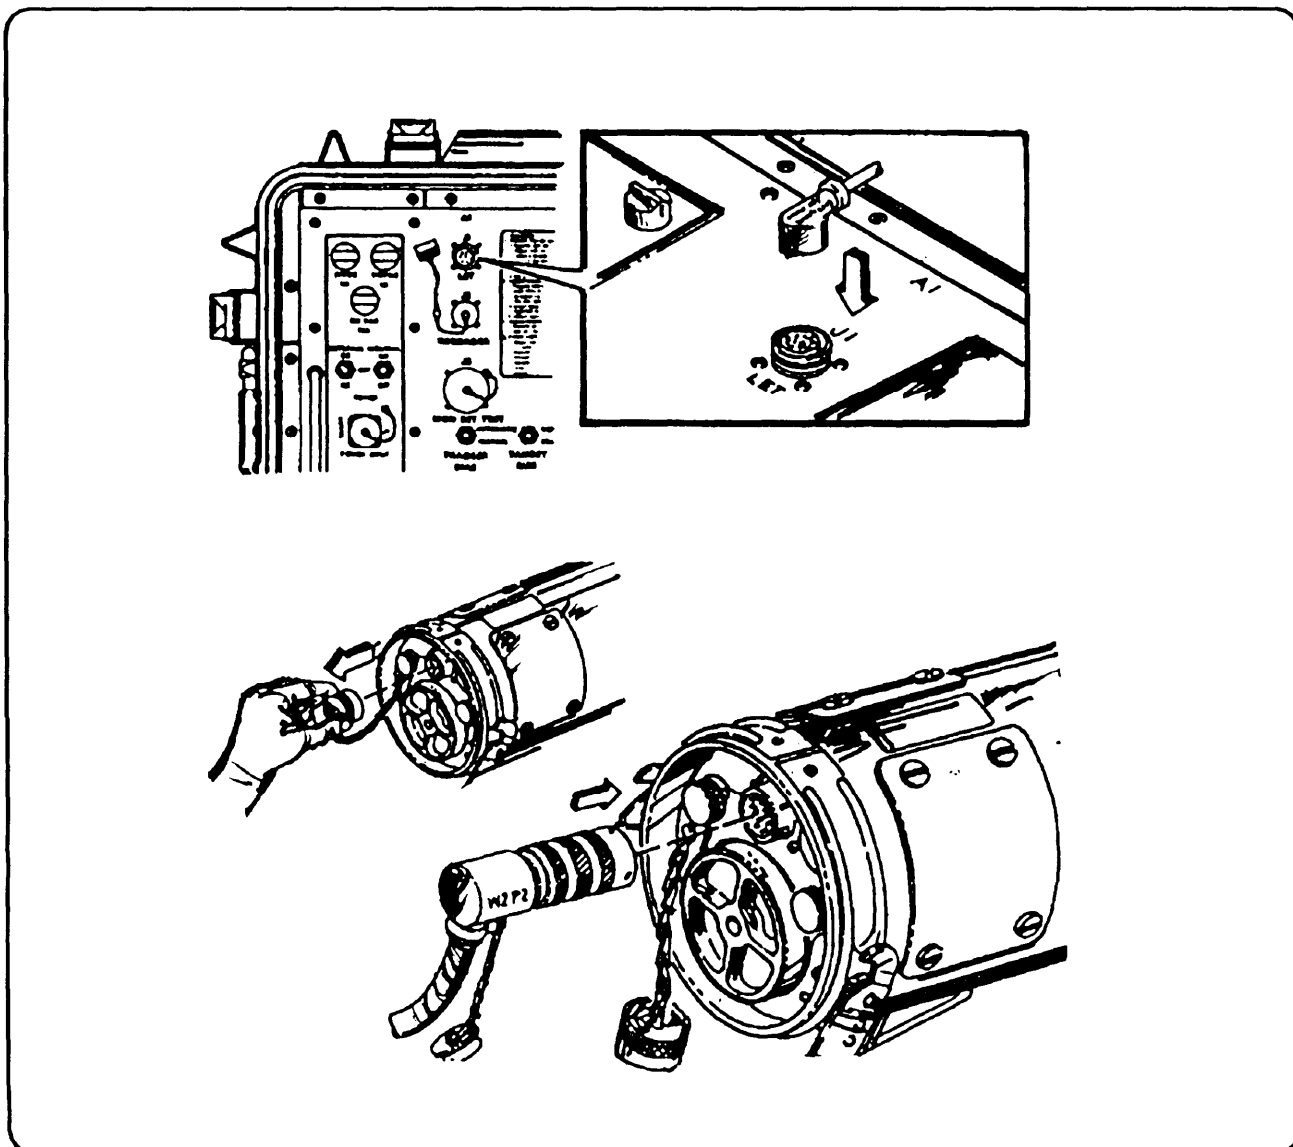

Figure 6-11. Mating the W2 cable assembly to the monitoring set and LET.
3. Mate the W2 cable assembly to the monitoring set and LET IAW TM 9-6920-484-12, (See Figure 6-11.)